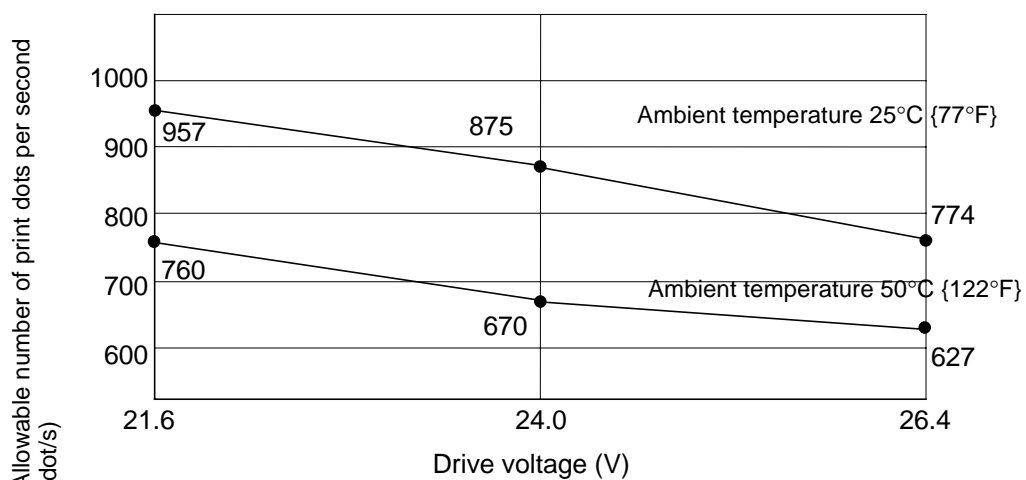

Figure 2.3.4 Print Duty
1. Use the temperature-sensing element within the range of the print duty as shown in Figure 2.3.4 (head temperature is less than 120°C {248°F}).